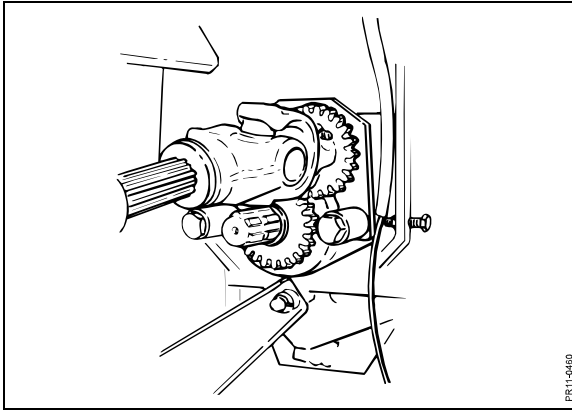

Fig. 4-15
- Fig. 4-15** 4. Mount the PTO drive shaft for the rotor on the free pin on the rotor housing. The PTO drive shaft must be fixed at position 2 whereby the rotor will rotate in the opposite direction.